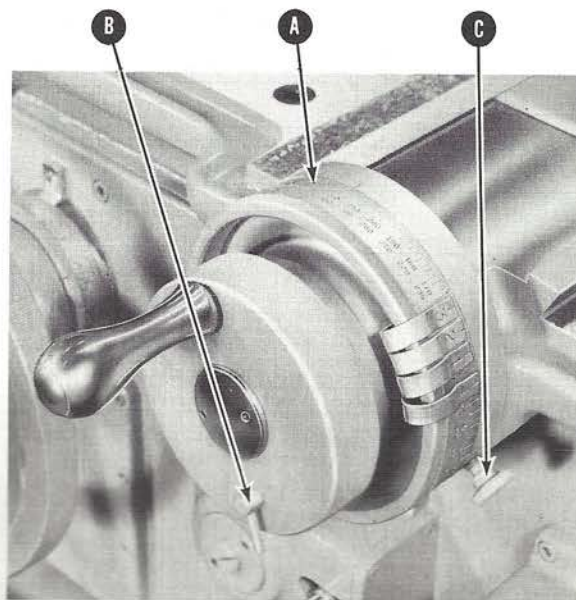

FIGURE 7 CROSS FEED MICROMETER DIAL
Cross feed diameter dial (A), Figure 7, is graduated to read in one thousandths of an inch. There are two sets of numbers. The set nearest the operator is for reading when the cross slide is feeding toward the front of the machine. The second set of numbers is used when the cross slide is feeding toward the rear of the machine. The dial is graduated to read direct, that is, .001" on the dial equals .001" on the diameter or the bore of the work.